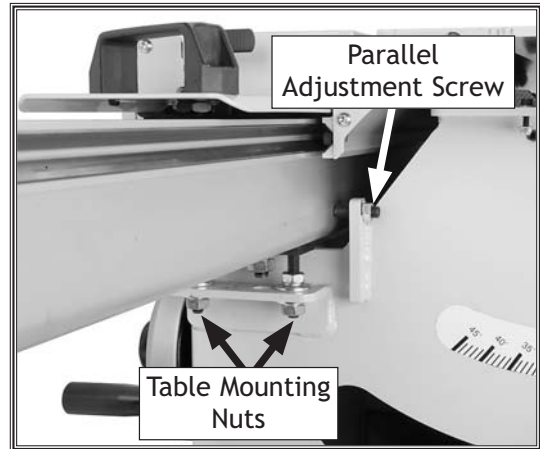

Figure 100. Table parallelism adjustment controls.
7. Loosen the sliding table mounting nuts (see **Figure 100**) at both mounting locations.
9. Slowly rotate the parallel adjustment screw (**Figure 100**) as necessary to move the table. If you move the adjustment screw away from the table, then push the table against the screw before proceeding.